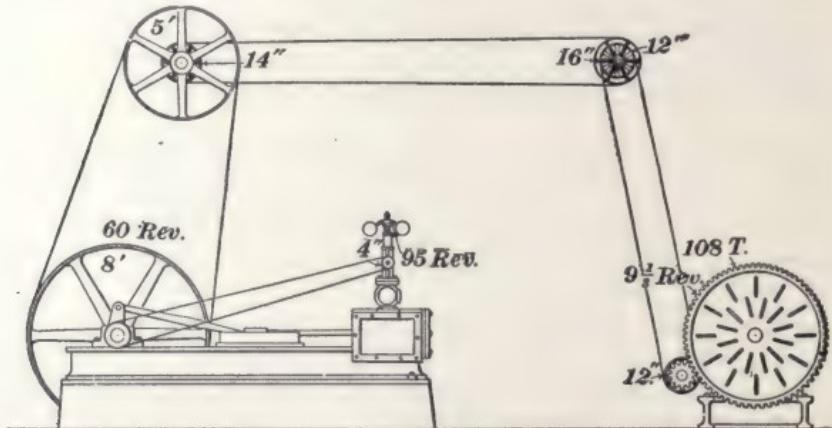

FIG. 27.
**EXAMPLE 2.**—In Fig. 27, the crank-shaft makes 60 revolutions per minute; the governor pulley is 4 inches in diameter; the bevel gear on the governor pulley shaft has 19 teeth; the bevel gear that meshes with it and drives the governor has 30 teeth. The governor is to make 95 revolutions per minute; what should be the size of the pulley on the crank-shaft?
**EXAMPLE 3.**—In Fig. 27, the flywheel is 8 feet in diameter and drives a 5-foot pulley on the main shaft. A 14-inch pulley on the main shaft drives a 16-inch pulley on the countershaft. A 12-inch pulley on the countershaft drives a 12-inch pulley on a shaft on which is a pinion that meshes into a large gear attached to the face plate of a large lathe, and which has 108 teeth. How many teeth must the pinion have in order that the face plate may make  $9\frac{1}{2}$  revolutions per minute?